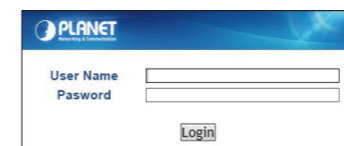

Figure 4-2: Login Screen
2. When the following dialog box appears, please enter the default user name "**admin**" and password "**admin**" (or the password you have changed before) as shown in Figure 4-2.